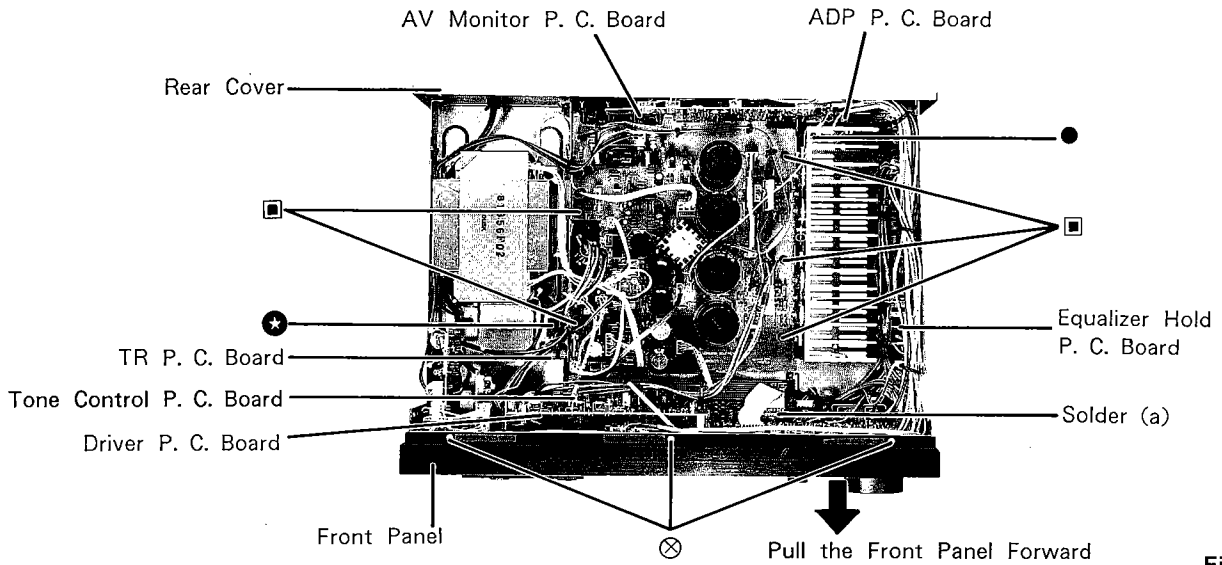

Figure 5
- (2) Remove three screws marked "⊗" as shown in Figure 5.
- (3) The Front Panel can be removed by pulling it forward.
(1) Remove a screw marked "★" as shown in Figure 5.
(2) Disconnect all wires from the Transistor P. C. Board.
- (1) Remove seven knobs (f) and remove five screws marked "●" as shown in Figure 5 and 8.
- (3) Remove a solder (a) as shown in Figure 5.
- (4) Disconnect all wires from the Function P. C. Board and Balance P. C. Board.
- (2) Remove the Equalizer Hold Panel as shown in Figure 5.
- (3) Disconnect all wires from the Equalizer P. C. Board.